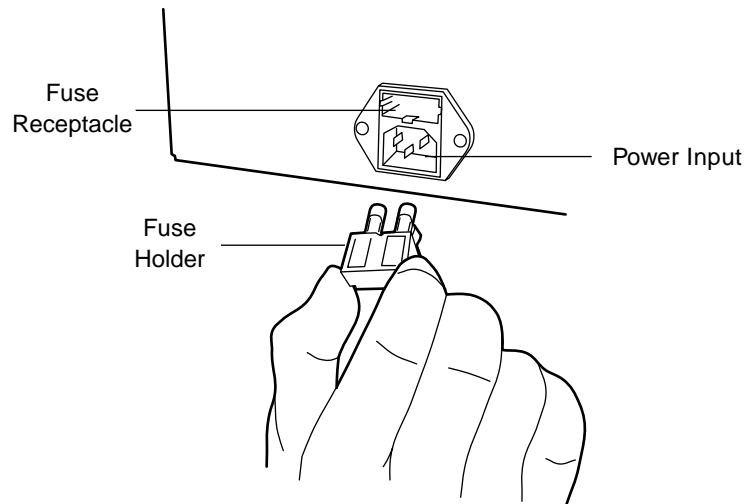

Figure 6-1 Removing and Replacing Fuses
2. Insert your fingers into the fuse holder slots on the rear panel of the detector, then pull with minimum force to remove the holder from the rear panel (see Figure 6-1).